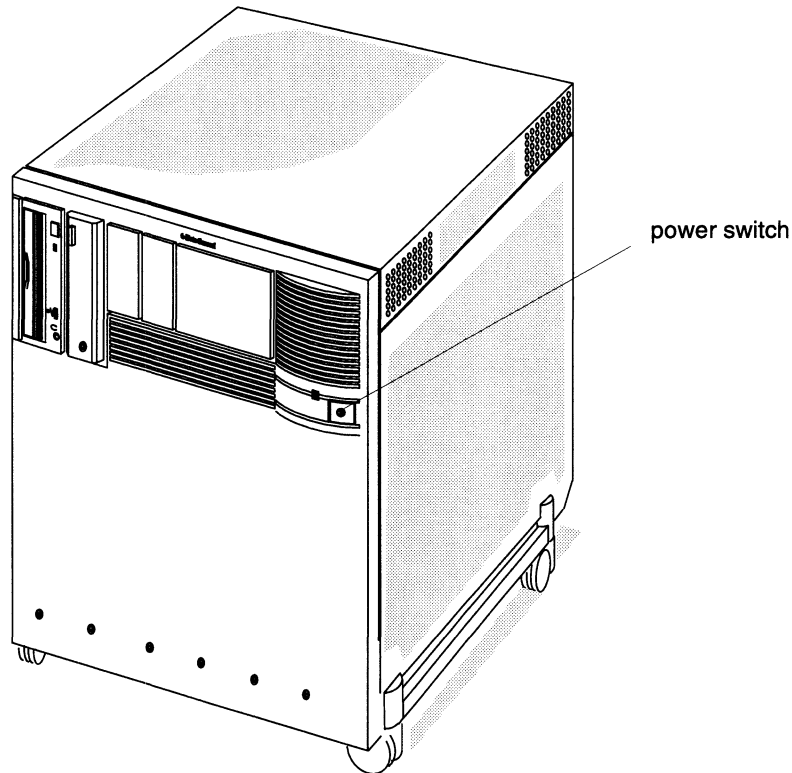

Figure 2–2 Powering down the AViiON 8500
3. Press the computer unit’s power switch. Figure 2–2 shows the location of the AViiON 8500 power switch.